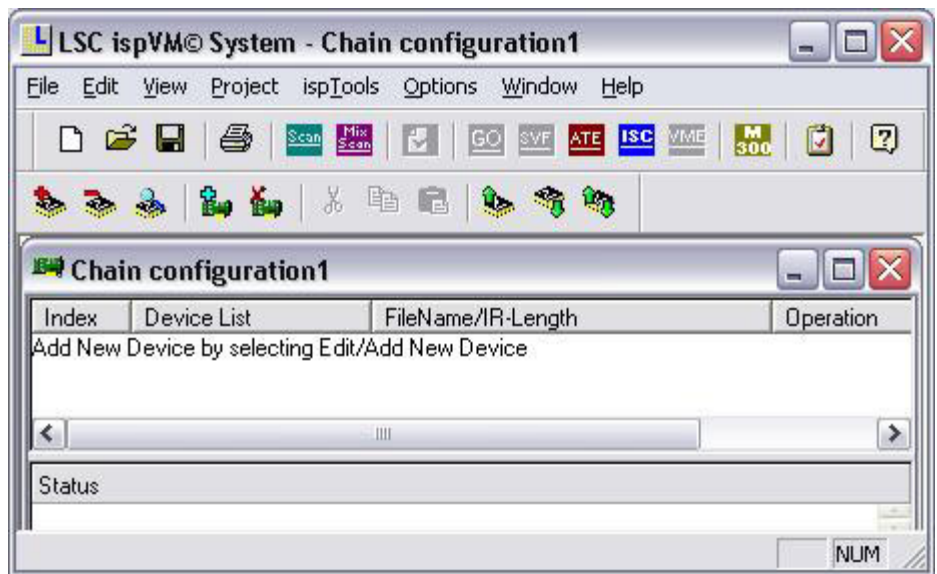

Figure 2. The ispVM™ System window.
1. Start the ispVM™ System application. The following steps use screenshots of Version 13.0.1 installed on a Windows XP Professional system; other versions of ispVM™ System may look different. A window like that in Figure 2 will appear.